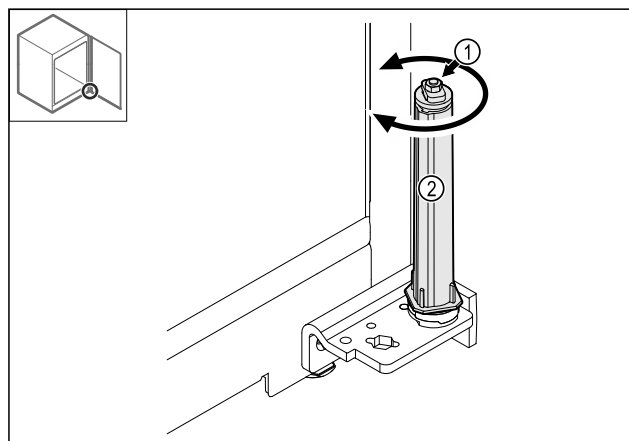

Fig. 32
- ▶ Do not dismantle the screw connection Fig. 32 (1) on the locking system.
- ▶ Turn the locking system Fig. 32 (2) until it clicks.